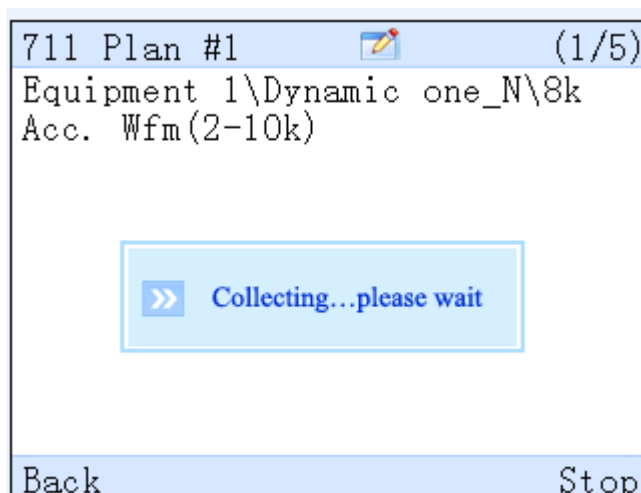

Figure 4-11
2. **Single shot collection:** Use up/down keys to select a measurement definition to implement single collection of measurement defined data as Figure 4-11. Such as “**8k Acc. Wfm.(2-10k)**”, press “Single shot collection” to start, and “Save” to finish.